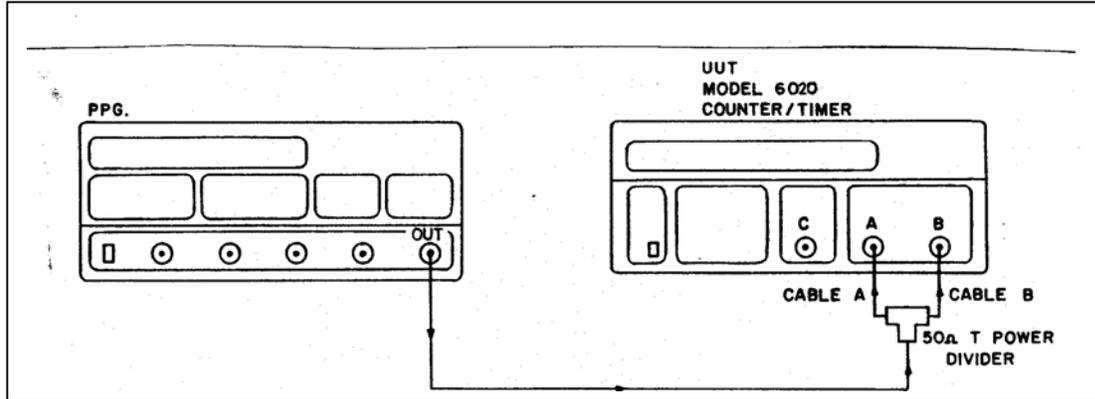

Figure 5-10. Phase A to B Test Set-up.
1. Connect the test equipment as described in Figure 5-10. It is essential that both cables to channels A and B are exactly equal in length.